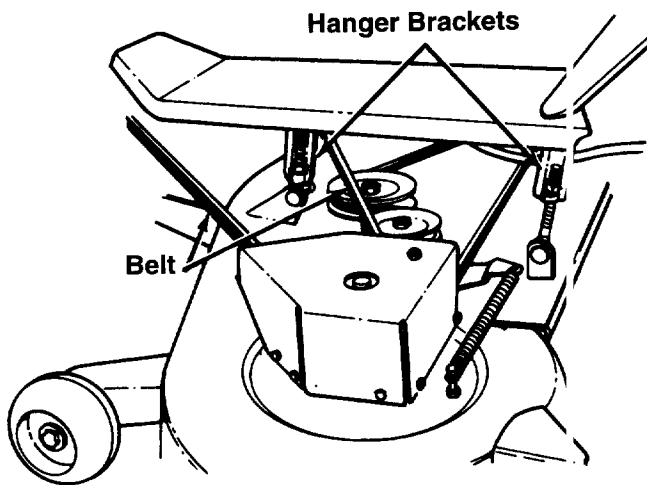

FIGURE 7.
13. Lift up on the edge of the deck and hook up the left front deck hanger to the deck using a flat washer and hairpin clip. Make sure deck hanger goes through the center of V-belt. See figure 7.